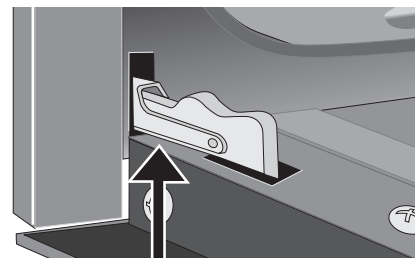
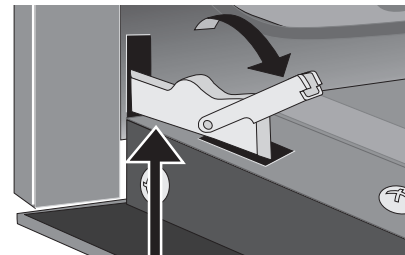

Figure 4: Door hinge locked
Figure 5: Unlocking door hinge
2. Pull up the lock located on each hinge support toward front of the oven until the lock stops. You may have to apply a little upward pressure on the lock to pull it up (Figure 4 and Figure 5).
4. Push the door hinge locks up toward and into the oven frame on both left and right oven door hinges to the locked position (Figure 4).